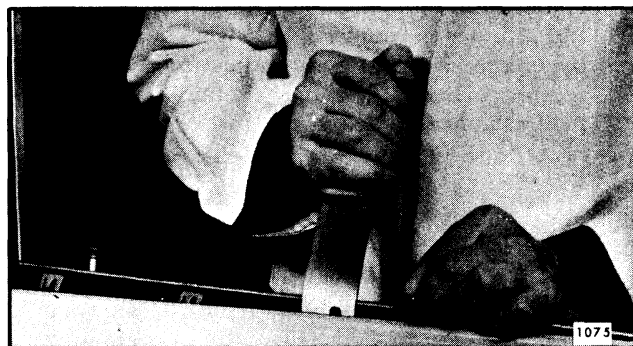

Fig. 5-24-Clip Retained Belt Sealing Strip Assembly Removal
- b. Using a flat-bladed tool that is slotted to fit over tang of clip, disengage clips from slots in door panel return flange as shown in Figure 5-24.